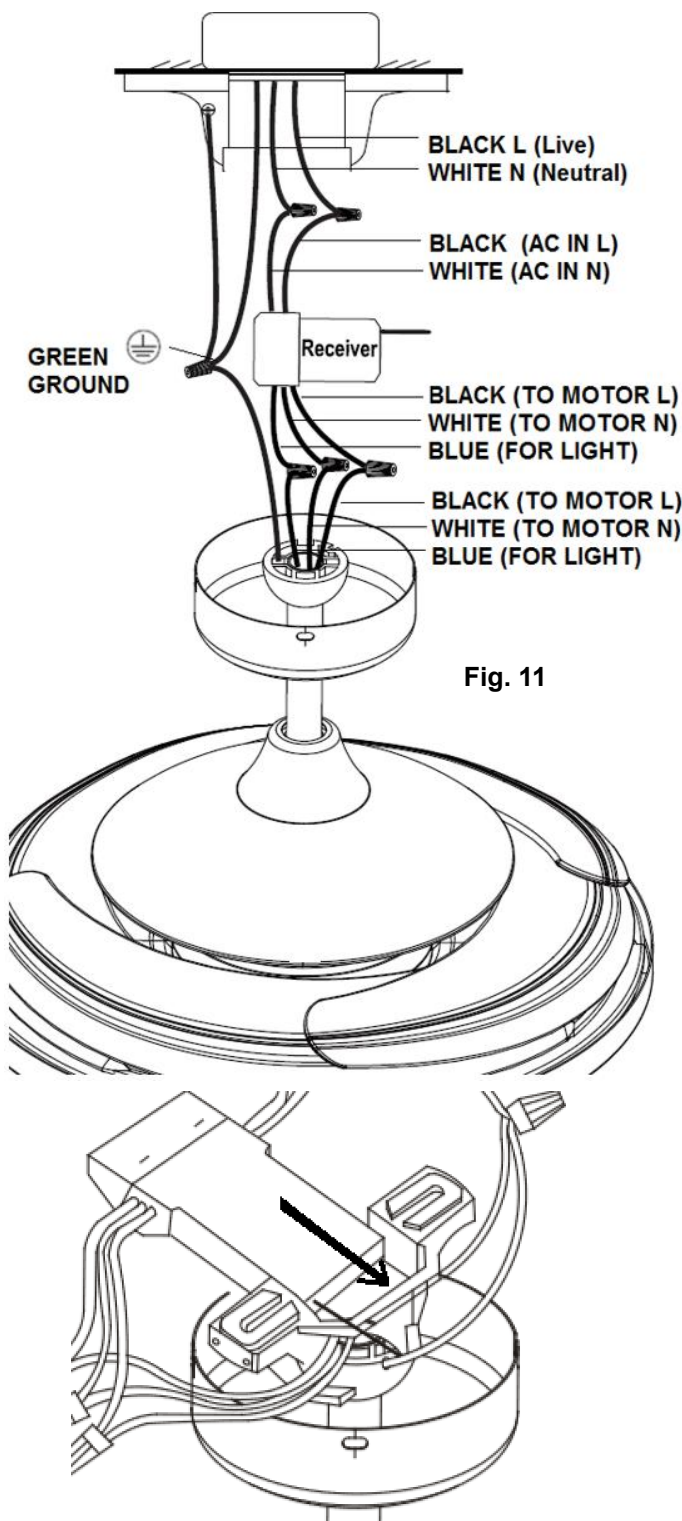

Fig. 11
1. Connect the household live supply wire (black) to receiver input wire (black, AC IN L) as shown in **Fig. 11**.